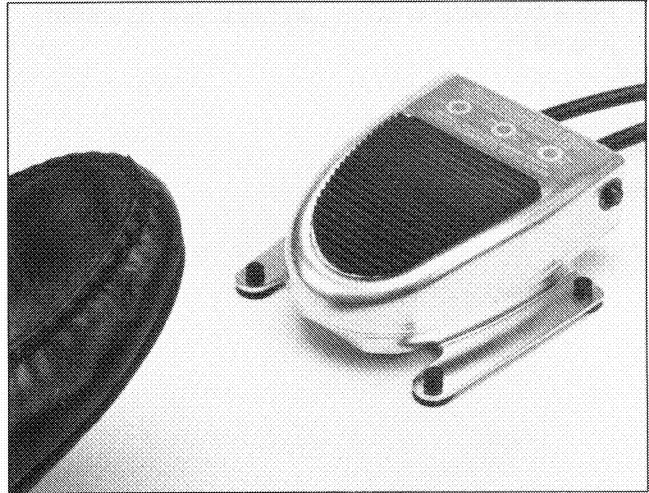

Figure 5
5. Press actuator pedal to complete termination (Figure 5).